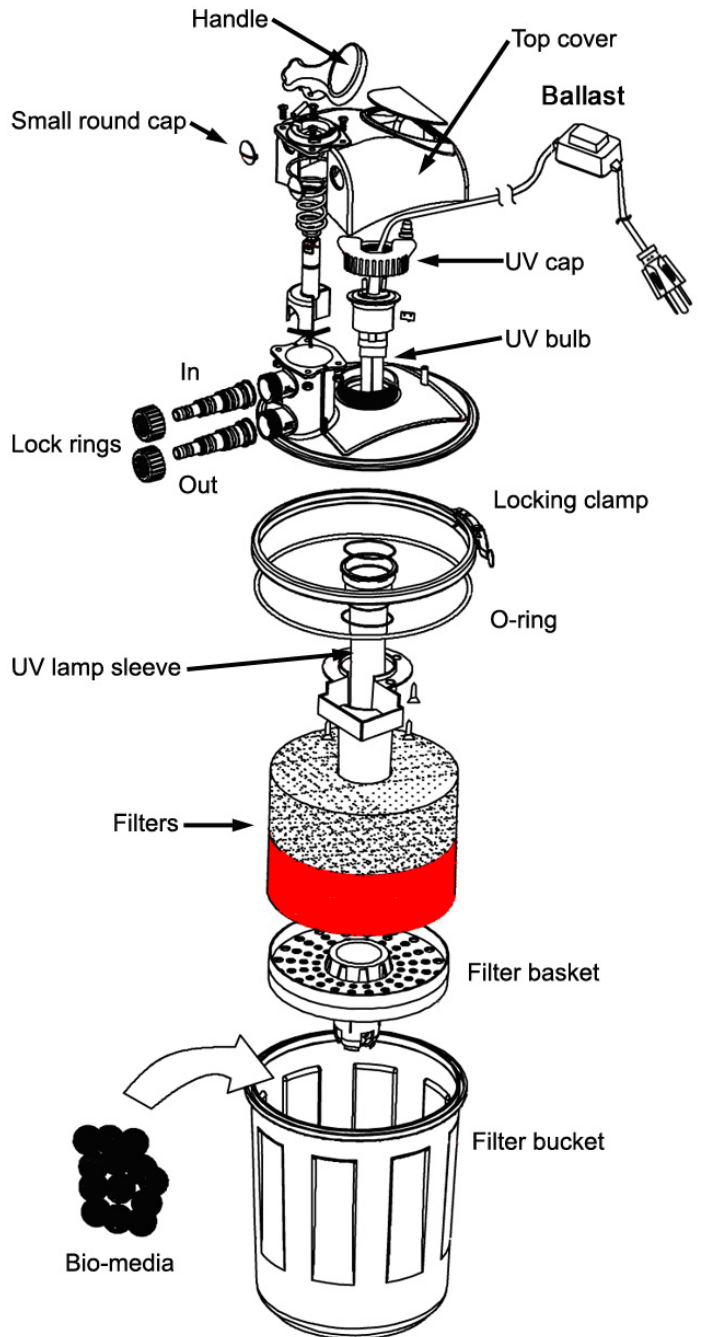

Fig. 1
4. Use a Phillips screwdriver to remove the four (4) screws around the handle and the one screw at the back of top cover. Lift cover straight up to remove it from the filter head.
8. Connect one end of a length of 3/4 in. tubing (not included) to the nozzle marked "IN", and the other end to the pump (not included). (Fig.1)
9. Connect another length of tubing to the nozzle marked "OUT". Attach the other end of the tubing to a spitter, waterfall, fountain or other water feature of your choice, directing the flow of water back into the pond. (Fig.1)
- Let the lamp cool and then disassemble the filter as in Assembly steps 2-6 shown above (Fig.1).